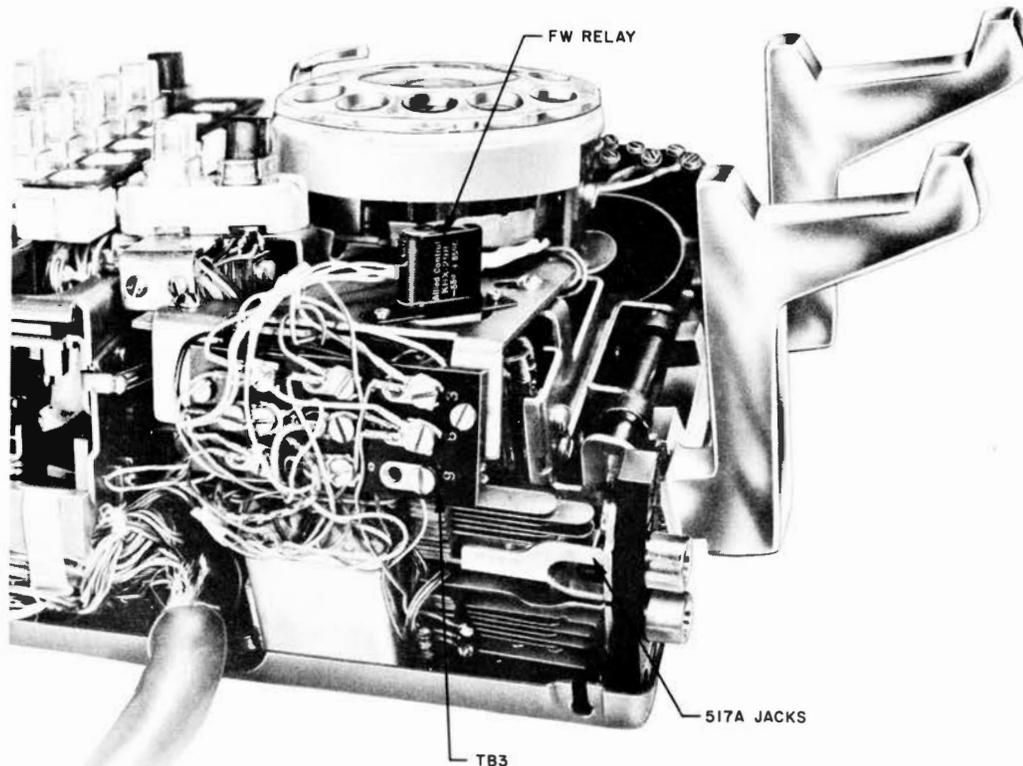

Fig. 3—FW Relay
3.03 The relay *FW* used for switching between 2- or 4-wire circuits is a sealed unit (Fig. 3). No adjustments are possible and a replacement unit (P-15E238) consisting of a sealed relay unit with spade-tipped leads can be ordered when required for maintenance reasons.